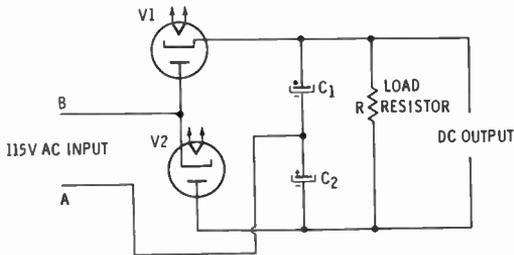

Fig. 13. A voltage-doubler circuit using vacuum tubes.
*Voltage-Doubler Circuit*—Another type of AC circuit is the voltage doubler. As its name implies this circuit makes it possible to obtain twice the AC input voltage without the need for a power transformer. The circuit shown in Fig. 13 represents a typical volt-